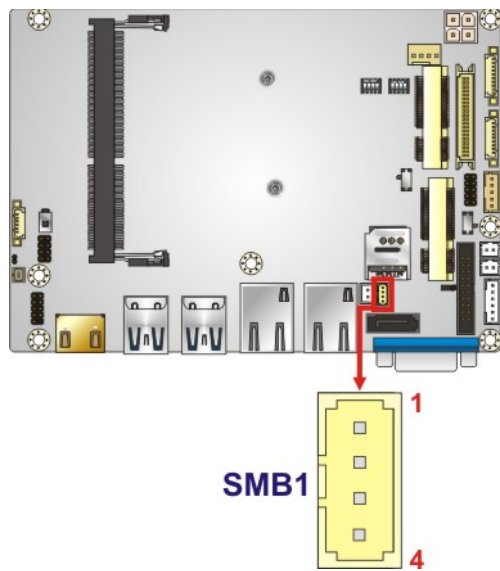

Figure 3-19: SMBus Connector Location
- CN Location: See Figure 3-19